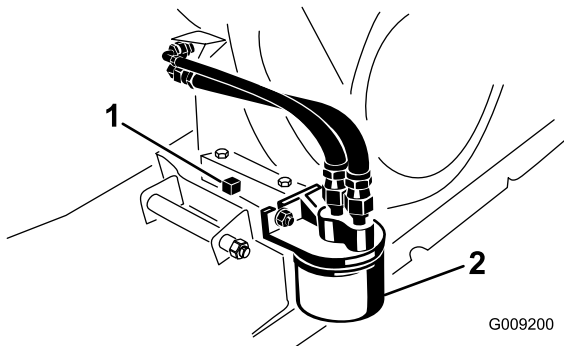

Figure 43
- Align a drain pan with a 1.8 L (1.9 qt) capacity under the drain plug (Figure 43).
- Remove the drain plug and seal (Figure 43).
- Remove the existing oil filter (Figure 43).
4. Thread the new filter onto the filter adapter until the gasket contacts the mounting plate, then tighten the filter an additional 1/2 to 3/4 turn further (Figure 43).